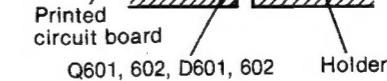

Fig. 24
**Note:** When inserting the diodes (D601, 602) or transistors (Q601, 602), refer to fig. 24.